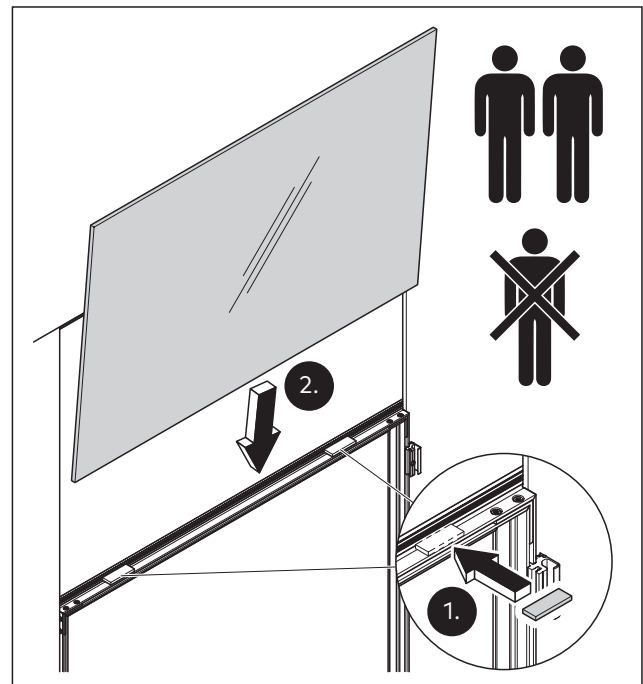

Fig. 35 Place the overpanel on the wooden blocks
1. Attach the wooden blocks on the base profile for the door frame on the hinge side (Fig. 35).